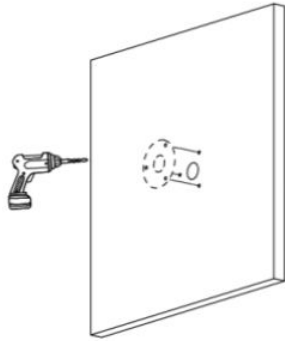

Figure 2-1
Step 1 Mark the mounting points for the camera and then drill the mounting holes as well as a cable pass through hole if necessary. See Figure 2-1.